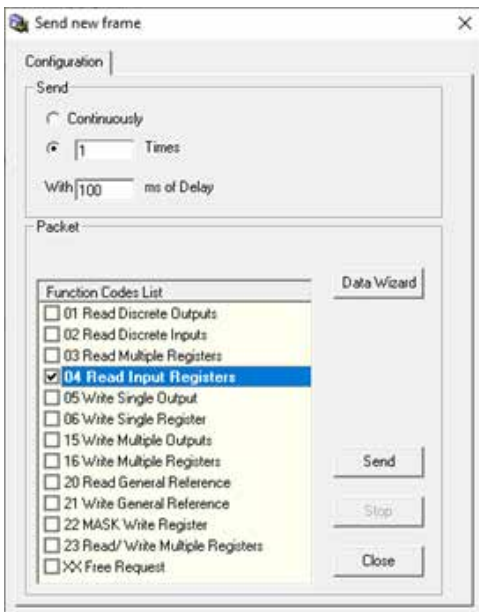

Figure 42.2.
- In the Send New Frame window, check the box next to 04 Read Input Registers. See Figure 42.2.